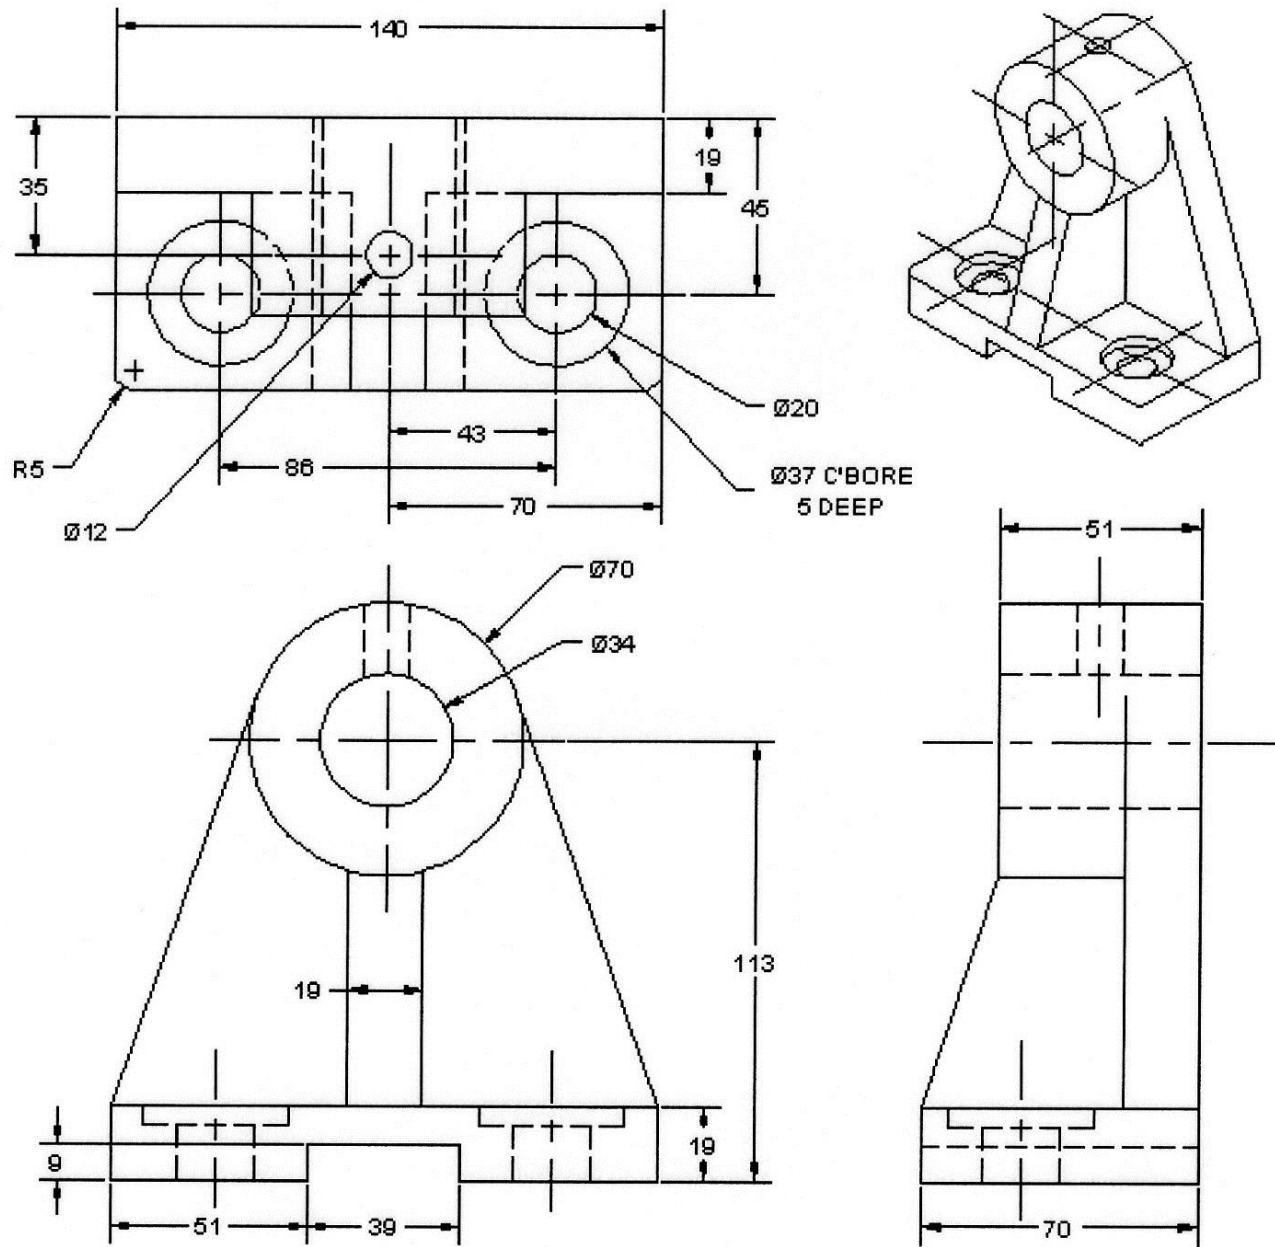

Figure 1. BEARING.
Requirements: Each student is required to create a sectional view from the (3) views, (front, top and right side) of the **BEARING** given in Figure 1. Construct a Full Sectional View of the problem.
1. Recreate the front, top and right side views shown in Figure 1. You are then required to create the best view or views to show a cross section of the part.